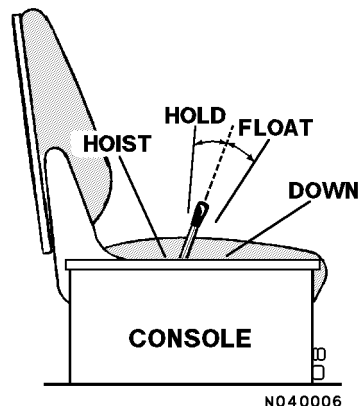

FIGURE 30-1. HOIST LEVER POSITIONS
4. Move the lever to the HOIST position. Refer to Fig. 30-1. Releasing the lever while in the HOIST position will cause the lever to move to the HOLD position.